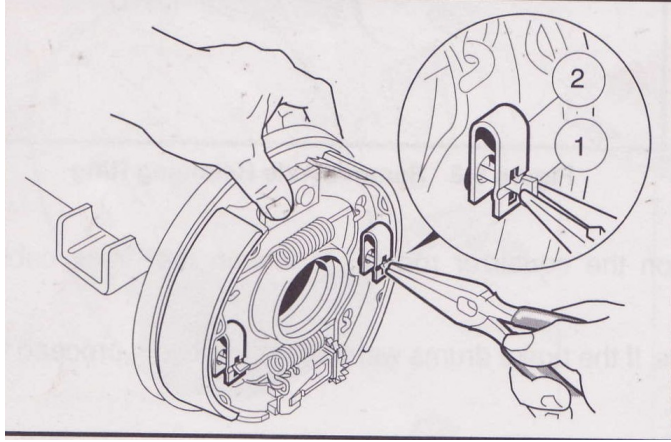

Figure 6-5
- Using needle nose pliers, turn the clip retainer (1) 90° to remove the shoe retainer clip (2) (Figure 6-5).